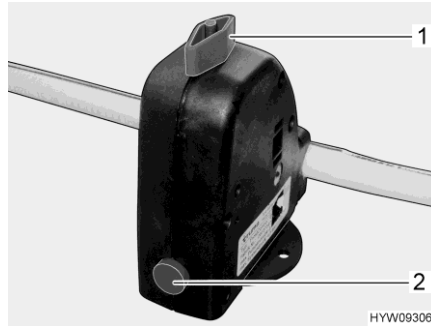

Fig. 103 Safety/drainage valve (Truma)
- Close the safety/drainage valve (Truma). Turn the knob (Fig. 103,1) perpendicular to the safety/drainage valve and push the push button (Fig. 103,3) in.